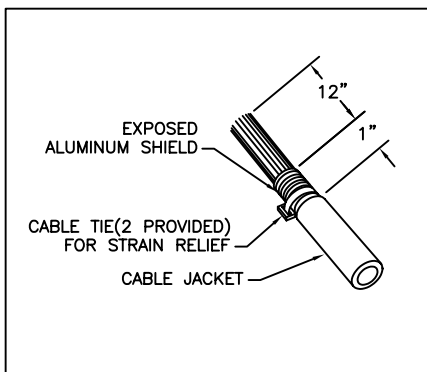

FIG. 2
4. PREPARE 25-PAIR LINE AND EQUIPMENT CABLES FOR INSTALLATION AND GROUNDING (FIG. 2).